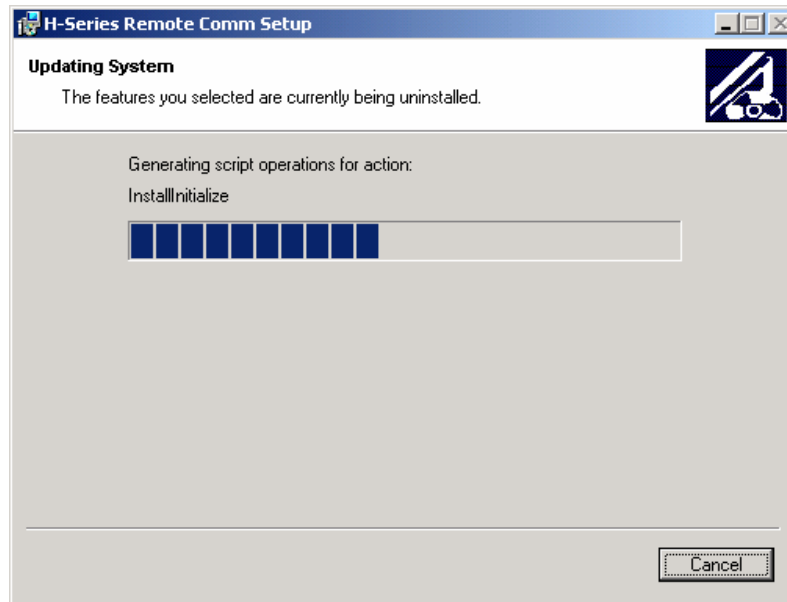

Figure 85 System Uninstalling Software
5. The old software version is removed from your computer. (Refer to Figure 85.)